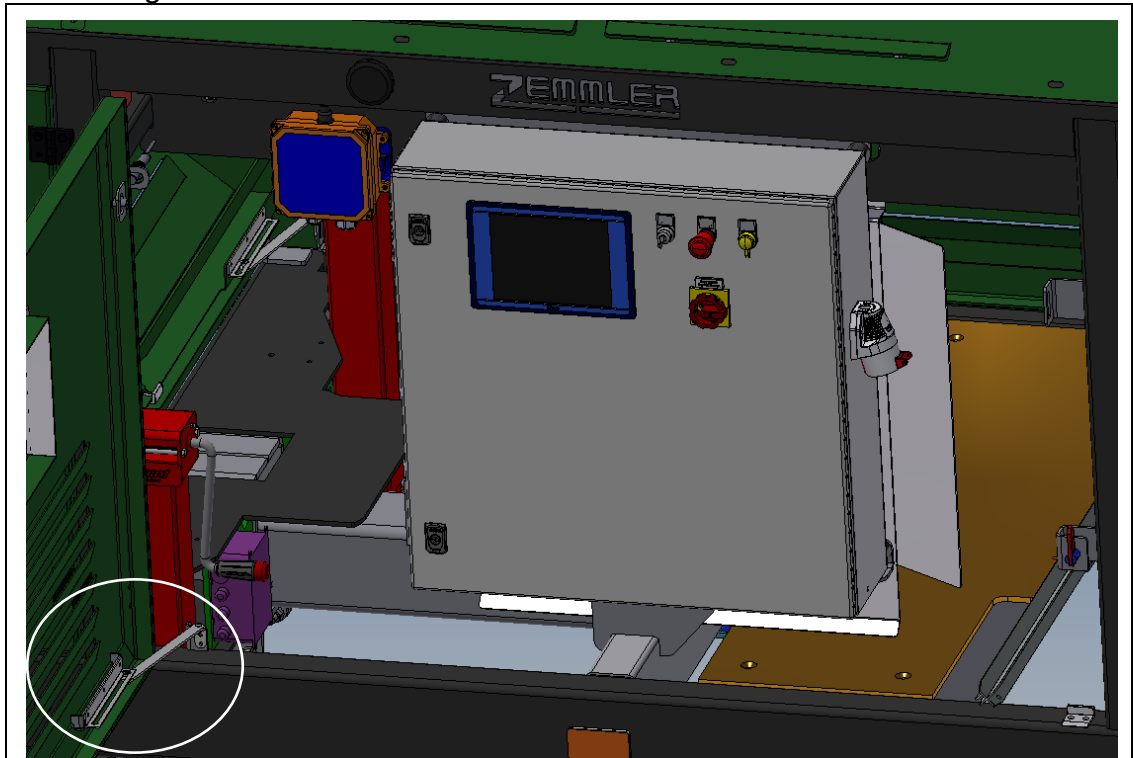

Fig. 8-5: Operating door open and secured with door holder
1. Open the service door completely until the door catch engages, see figure 8-5.
1. Open the service door completely until the door catch engages (see figure 8-5).